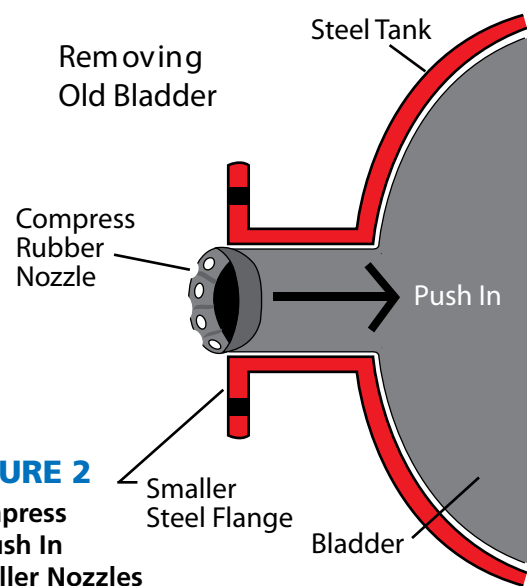

FIGURE 2
5. Carefully compress ALL rubber nozzles (Fig. 2) **EXCEPT** the **LARGEST** nozzle which is where the bladder is to be removed. Push the smaller rubber nozzles inside the tank.